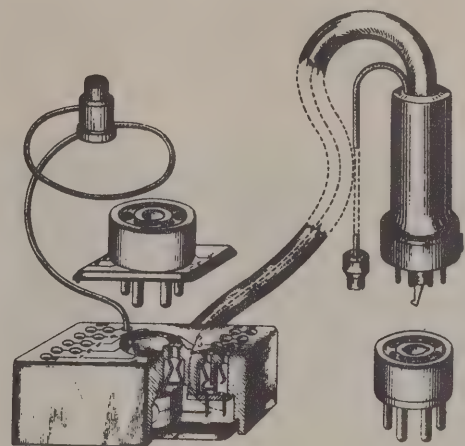

Figure 5
Note that there are pairs of jacks opposite each pin. The outer jacks are used for voltage measurements and connect through to the various pins. The inner jacks are for current measurements and carry small switches which open the circuit when a jumper cable is inserted in the jack. In this way by using the two jacks opposite any electrode, current to that electrode can be measured on any of the milliamperage ranges of the analyzer. Figure 5 indicates the internal structure of this block and shows how the small open circuiting switch operates for insertion of the milliammeter.
d. Voltage and Current Measurements with Socket Selector Unit. If a test on all tubes does not clear the trouble, voltage and current measurements should be made on the receiver or transmitter using the SOCKET SELECTOR UNIT. Set up the analyzer and select the adapter having the desired number of tube pins to fit the SOCKET SELECTOR UNIT and fit the other adapter on the end of the analyzer plug. Remove the first tube in the transmitter, or receiver, and insert in the block adapter. Place the analyzer plug in the socket vacated by the tube, and connect the grid lead, if any, to the metal cap on the top of the analyzer plug. Connect the tube cap, if any, to the cap lead on the analyzer block. When making connections to the SOCKET SELECTOR UNIT for voltage measurements care should be taken to plug into the outer jack opposite each pin. Plugging into the inner jack will open the circuit resulting in a reading of 0 voltage. (See Paragraph 6C and Fig. 5.) When making connections to the SOCKET SELECTOR UNIT for current measurements, two leads from the milliamperage ranges of the analyzer are plugged into two jacks, one lead into the outer jack, and one lead into the inner jack, opposite the element in the particular circuit to be measured. Plugging into the inner jack opens the circuit to the outer jack and thus places the milliammeter directly in series with the circuit.